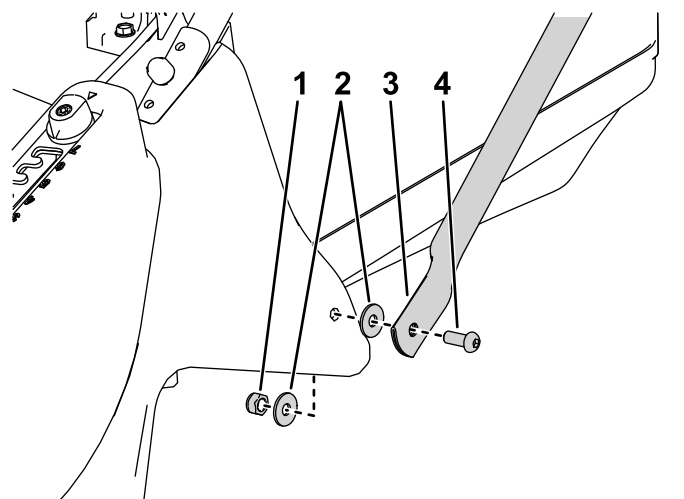

Figure 4
3. Install the bottom of the brace handlebars to each side of the mower deck using a bolt, flat washers on the inside and outside of the deck, and a locknut (Figure 4).